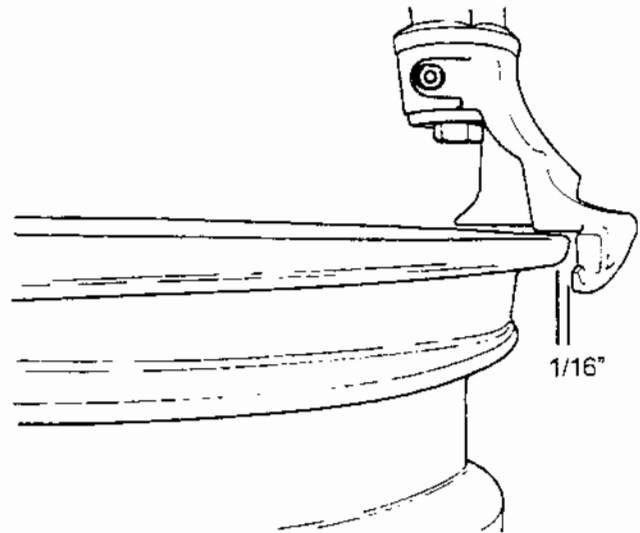

Fig. 14
E. Gently position the mount/demount head in contact with rim edge, now manually push the lock lever up and lock it into place. The tool automatically moves vertically up and away from the rim edge. Turn the swing arm adjustment knob until the mount/demount head moves horizontally away from the rim flange by approximately 1/16" (2mm): this is necessary to avoid any rim contact during the changing process. (Fig.14).